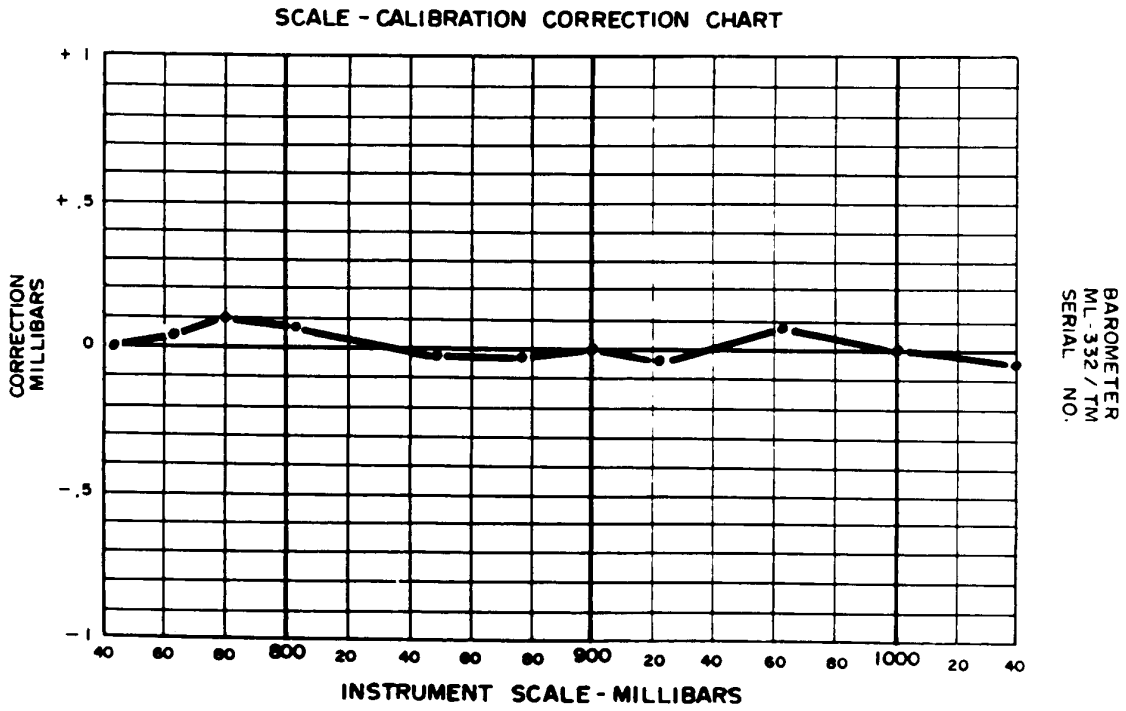

Figure 2. Sample - scale correction.
(7) If barometer does not indicate within limits specified, perform **b** below.
(8) For applicable TI's, plot scale error on calibration correction chart and place chart in case cover (see sample, figure 2).